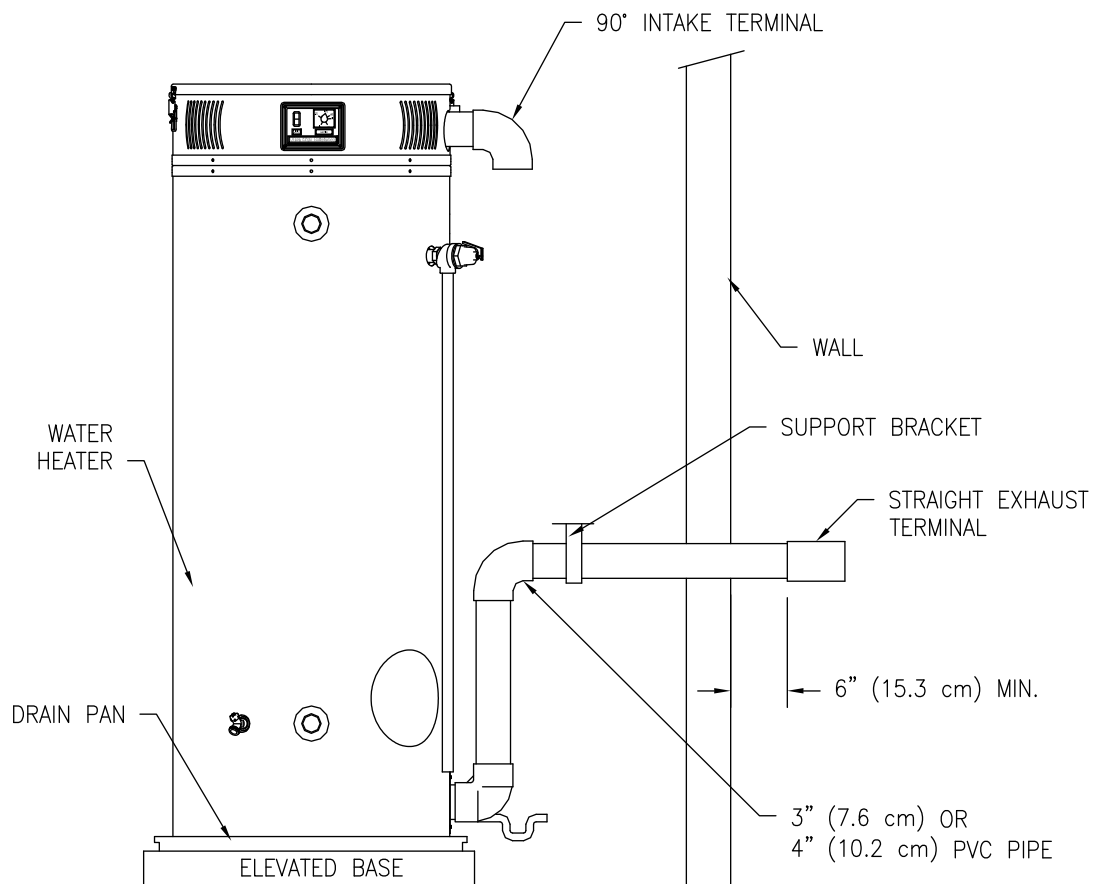

Figure 16. Typical Horizontal Power Vent System
2. Use the proper PVC cement or sealant to secure the exhaust vent terminal provided with the water heater to the plastic pipes. The distance between the back edge of the exhaust vent terminal and the exterior wall (see Figure 16) must be 6 inches (15.2 cm). Use the proper cement and assembly procedures to secure the vent connector joints between the terminal and the blower outlet. Provide support brackets for every 3 feet (.9 m) of horizontal vent.